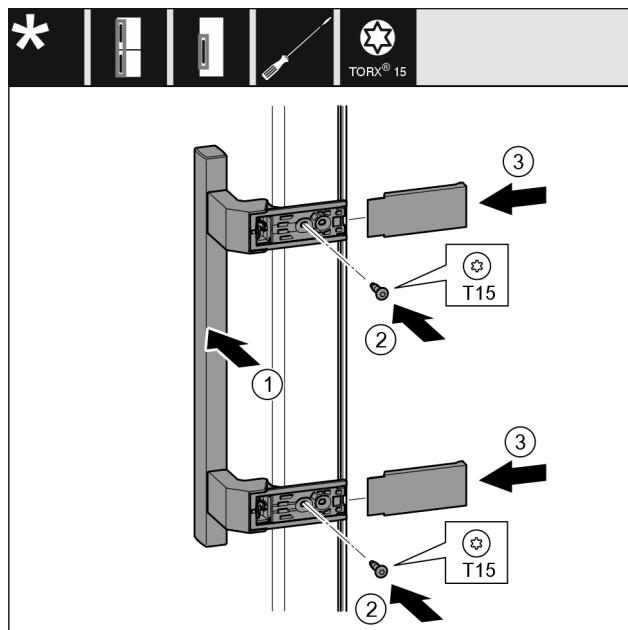

Fig. 20
- ▶ Attach the handle on Fig. 20 (1) the opposite side.
- ▶ Tighten the screws Fig. 20 (2) with the screwdriver.
- ▶ Attach the covers Fig. 20 (3) on the sides and slide them on.